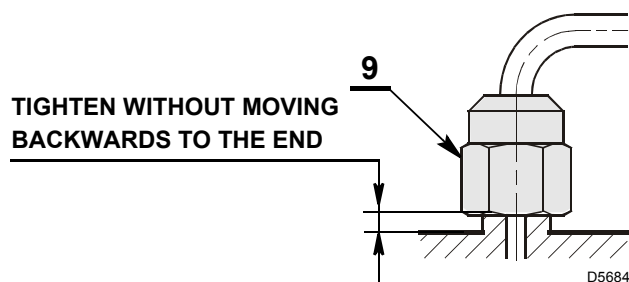

Fig. 14
During the reassembly of the nozzle-holder assembly screw the nuts (9) as shown in fig. 14.